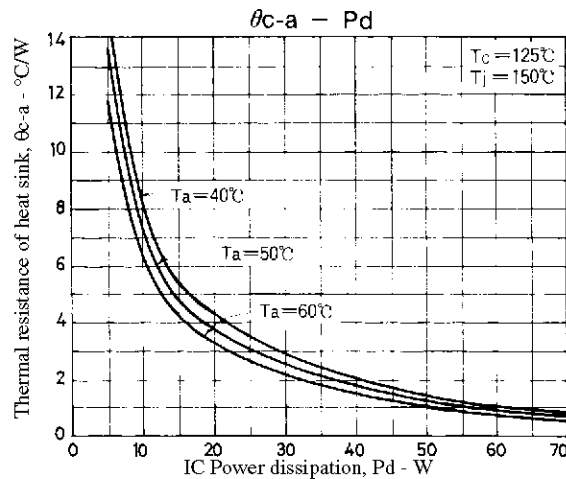

Figure 3. STK4040V θc-a - Pd
Figure 3 shows the relation between Pd and θc-a given from (1) and (3) with Ta as a parameter.
The thermal resistance of a heat sink is obtained from Figure 3.